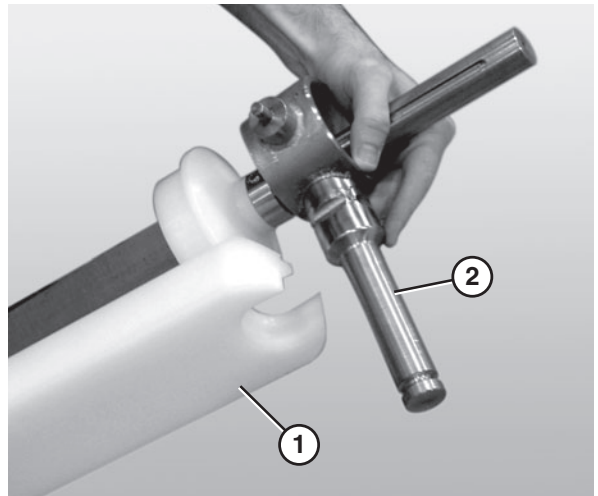

Figure 86
- Attach the guard bar (Figure 86, item 1) to the bearing / motor mount bracket shafts (Figure 86, item 2).